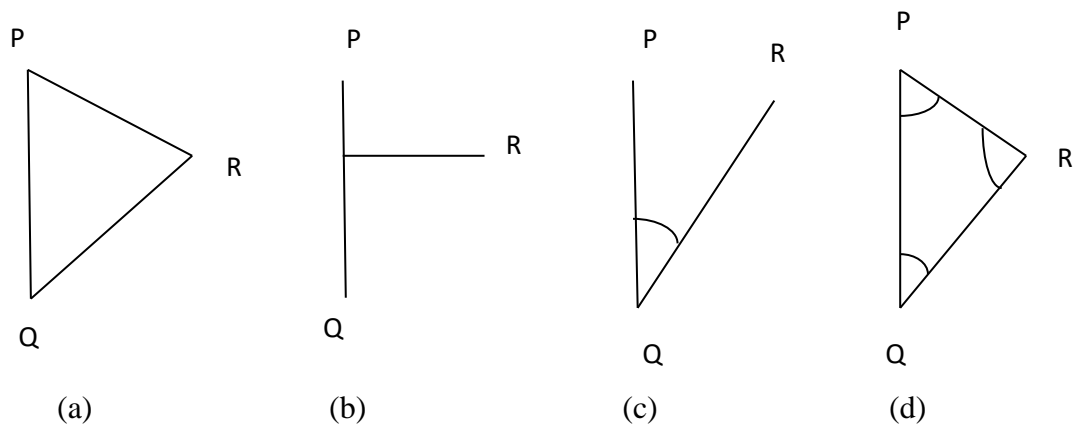

Fig.1
- (i) *By measuring distances PR and QR:* - The distances PR and QR may be measured and the location of R may be plotted by drawing arcs to the same scale to which line PQ has been drawn as shown in Fig 1 (a).
- (ii) *By dropping a perpendicular from R on PQ:* - A perpendicular RT may be dropped on the line PQ. Distances PT, TQ and RT are measured and the location of R may be plotted by drawing the perpendicular RT to the same scale to which line PQ has been drawn (Fig. 1 (b)).
- (iii) *By measuring the distance QR and angle PQR:* - The distance QR and the angle PQR equal to  $\alpha$  are measured and location of R may be plotted either by means of a protractor or trigonometrically (Fig 1 (c)),
- (iv) *By measuring the interior angles of the triangle PQR:* - The interior angles P, Q and R of the triangle PQR are measured with an angle measuring instrument such as theodolites. The length of sides PR and QR are calculated by solving the triangle PQR and coordinates of R are calculated in the same terms as those of P and Q. Even without calculating the co-ordinates, or sides the location of R can be obtained by plotting the angles PQR and QPR (Fig 1(d)).